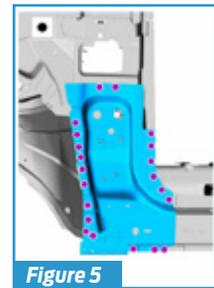

Figure 5
3. Install and spot-weld the new A-pillar reinforcement using the resistance spot-welding equipment (**Figure 5**).